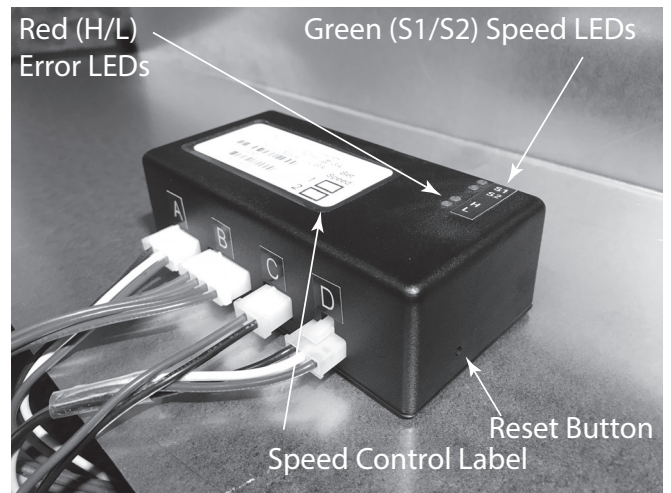

Figure 3.7 Power Vent Speed Control
Step 3: Set the Control Module selector switch to OFF position. Wait five (5) minutes to allow possible accumulated gas to clear.
**Note:** Pressing of the reset button more than once will alter the blower speed preset. Make certain that the selected speed (S1 or S2) matches the speed indicated on the Power Vent Speed Control label. If correct speed is not indicated on label, set speed to S2. The selected speed is now the default speed setting whenever the appliance is placed into operation. See Figure 3.7.